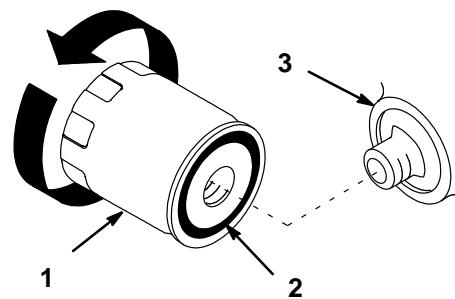

Figure 19
- Remove the old filter and wipe the filter adapter (Fig. 19) gasket surface.
- Apply a thin coat of new oil to the rubber gasket on the replacement filter (Fig. 19).
6. Install the replacement oil filter to the filter adapter. Turn the oil filter clockwise until the rubber gasket contacts the filter adapter, then tighten the filter an additional 1/2 turn (Fig. 19).